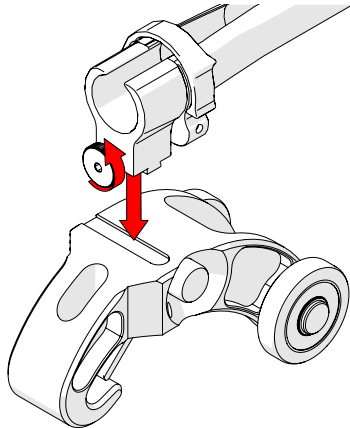

Fig. 52 - Loosen and slide on
1. Loosen the knob on the cable management dovetail mount. Position the mount onto the heavy duty dovetail QuickLink (Fig. 52).